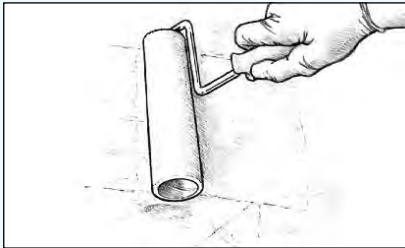

Figure 30 Roll lightly and randomly over a small area. Spread the epoxy into a thin even film.
4. Roll lightly and randomly over an area approximately 600mm x 600mm to transfer the epoxy evenly over the area (Figure 30).